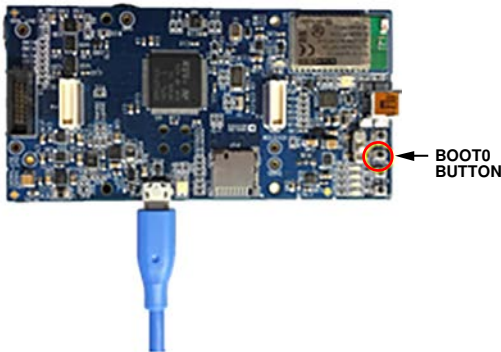

Figure 6. MicroUSB Connection and BOOT0 Button Used When Upgrading Firmware
2. Plug in a microUSB cable between the **EVAL-ADPDUZ** and the PC with the power to the **EVAL-ADPDUZ** turned off (see Figure 6).
3. Press and hold the **BOOT0** button, and switch the power switch to the **ON** position (see Figure 6).